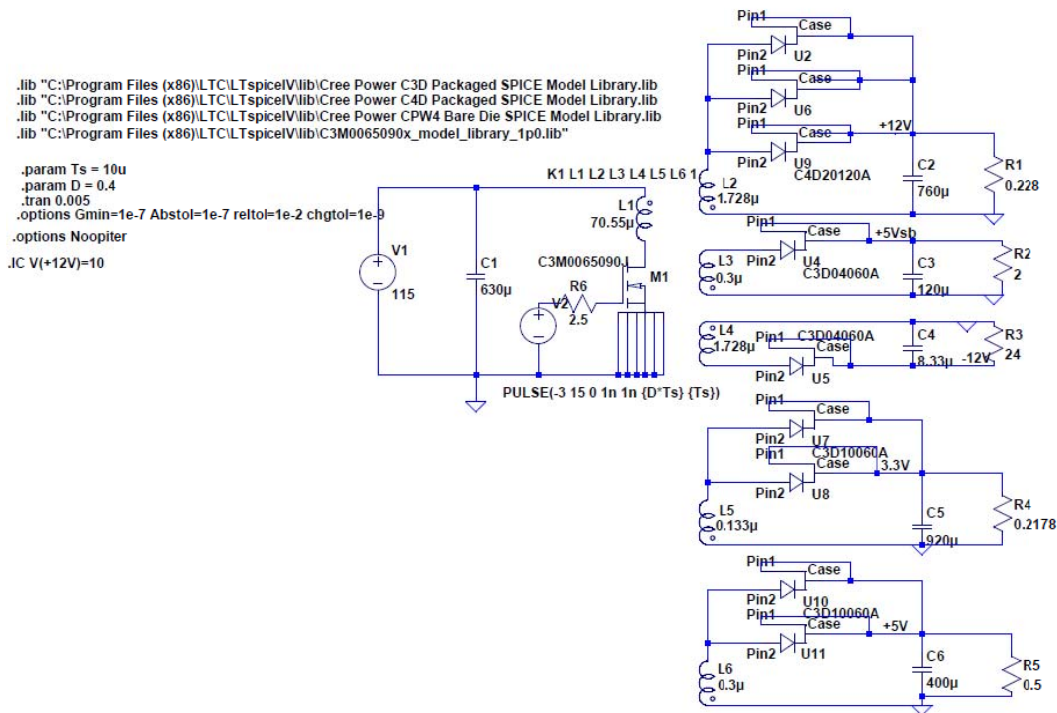

Figure 1: 750W Flyback converter model circuit
3. The model will be similar to the one shown in figure 1.